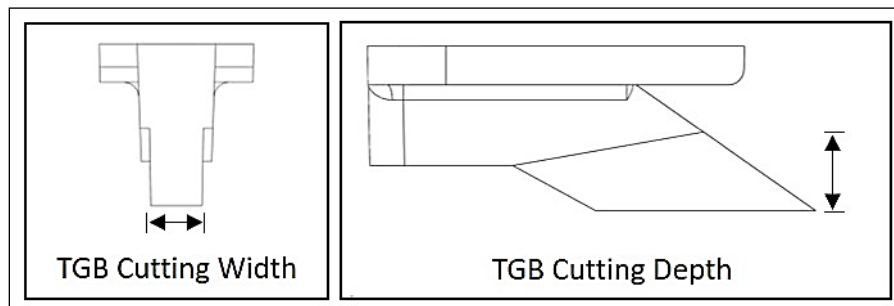

Figure 2. TGB Cutting Width and Depth
- 3.1.2. TGB cutting depth and width are defined as the portions of the TGB extending beyond the gap blade adapter when installed correctly. See **Figure 2**.